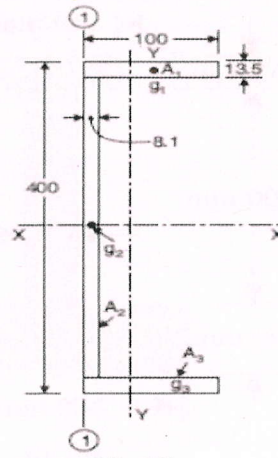

Fig.27
- b Compute the second moment of area of the channel section shown in Fig. 27 about centroidal axis x-x and y-y **5M**